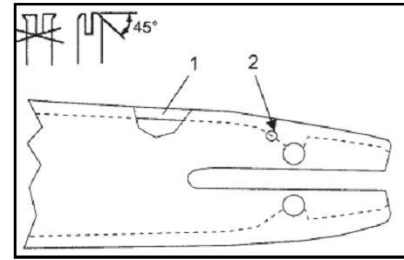

Fig.15
- 1- Properly clean the bar grooves (see 1 in Fig.15) and the hole for oil supply (see 2 in Fig.15).